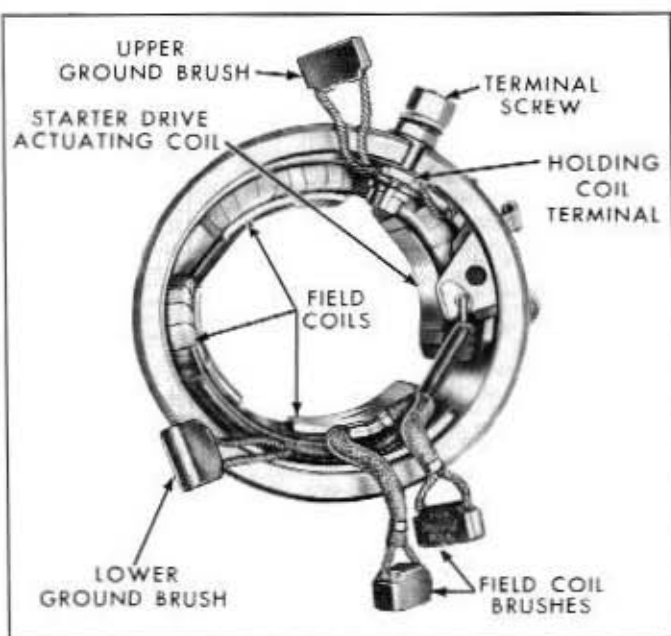

Fig. 9-33—Field Coil Assembly—(60C-7691)
screws. Remove the lower brush. Refer to figure 9-33.
8. Separate the holding coil terminal from the upper ground brush terminal. Refer to figure 9-33.
7. Remove the upper and lower ground brush terminal screws and remove the lower brush. Refer to figure 9-33.